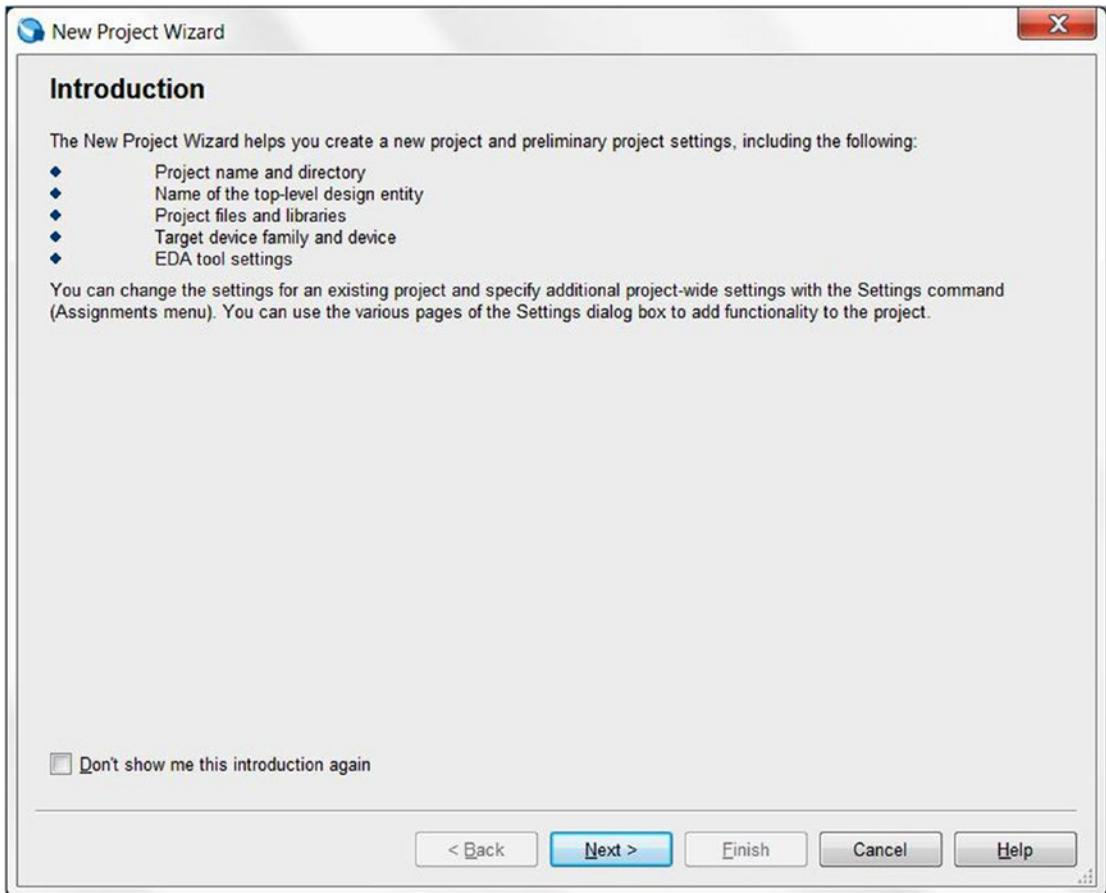

Figure 4-3. *New Project Wizard—Introduction*
3. The new project wizard will open (Figure 4-3), which is where we decide what kind of project we want. The first page is only an introduction. Click **Next**.